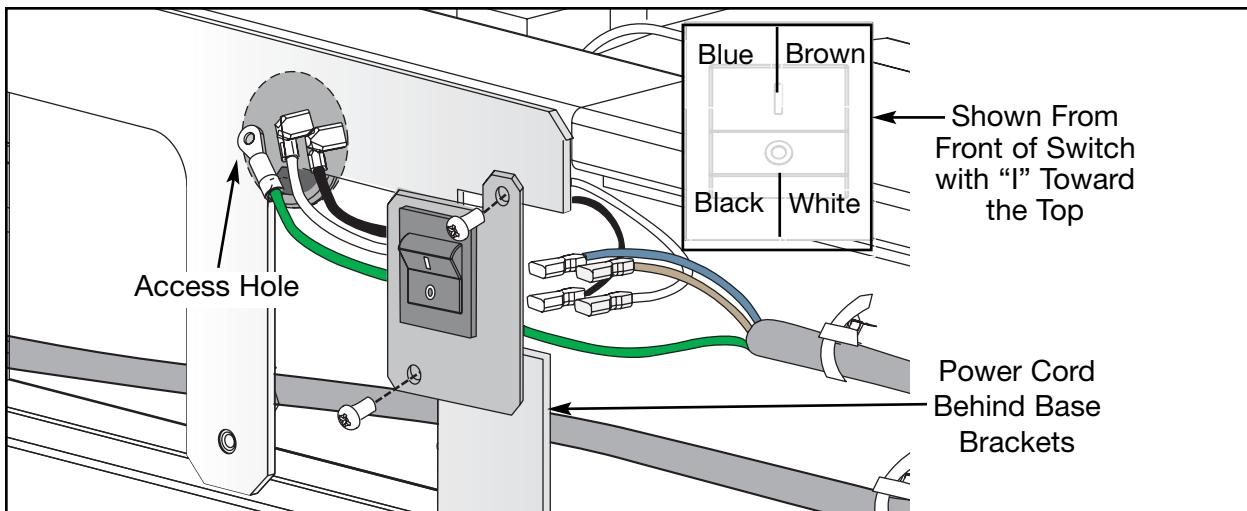

Figure 23
- A.** Hold the power switch and its plate so that the I (on) is toward the top. See Figure 23.
- F.** Using a Phillips head screwdriver, secure the switch plate to the treadmill with the I (on) toward the top. See Figure 23.